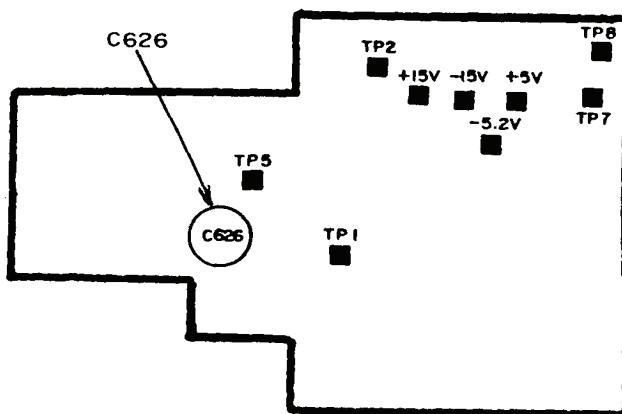

Figure 7. A4 power supply board - top left center.
- (1) Position controls as listed in (a) through (e) below:
- (2) Connect negative input of multimeter to TP7 (fig. 7) and positive input to TP1 (fig. 7). Multimeter will indicate approximately 155 V. Record multimeter indication.
- (3) Move positive lead to TP5 (fig. 7). Multimeter will indicate approximately 133 V dc. If the difference between indication recorded in (2) above and this indication is not between 21.780 and 22.220 V dc, perform **b** below.
- (4) Press **AMPLITUDE 30-100** pushbutton. Multimeter will indicate approximately 263 V dc at TP1 and approximately 241 V dc at TP5.
(5) Repeat technique of (2) above for settings and indications listed in table 9.
b. Adjustments. Adjust A4 R604 so that the voltage difference between TP1 and TP5 (fig. 7) is $22V \pm 220\text{ mV}$ (R).
23. Figure: 7